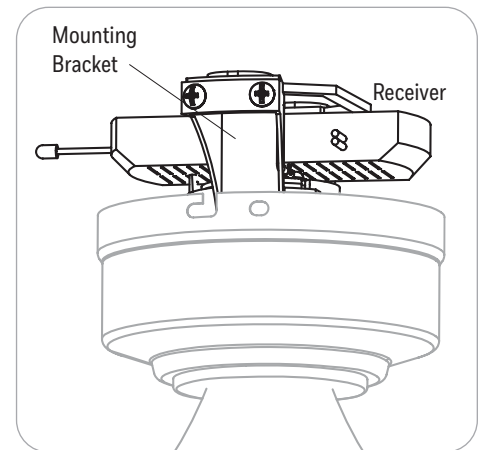

Figure 3.6
6. Insert the receiver inside the mounting bracket with the flat side facing the ceiling (Figure 3.6).